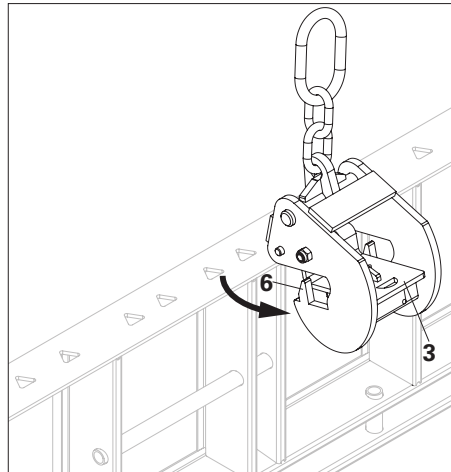

Fig. 9
1. Push the spring-loaded lock plate (3) upwards and remove the locking hook (6) from the triangular slots of the panel. (Fig. 9)